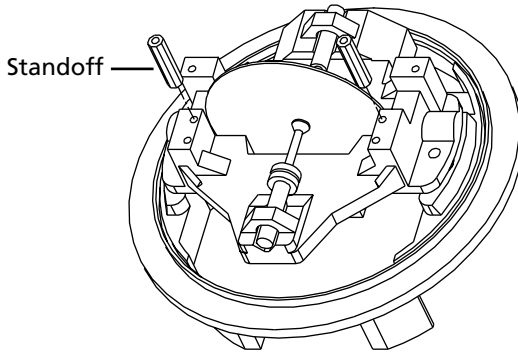

Figure 20. Installing Standoffs
5. Screw standoffs into the meter base. See Figure 20.